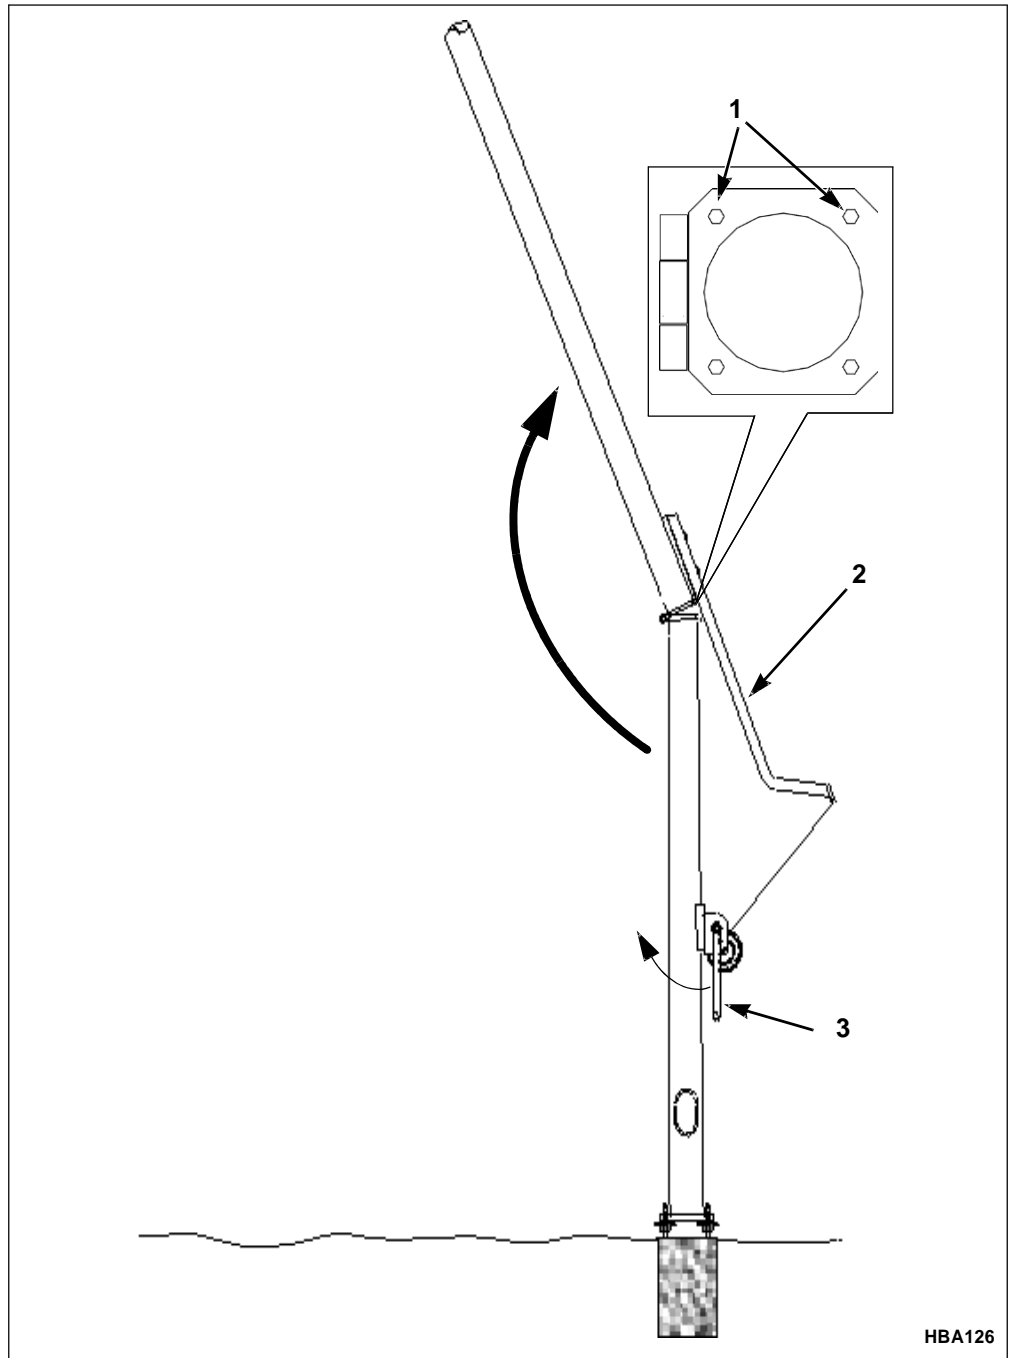

Figure 15. Raising the Top Half of the Pole
1. Using the hand crank on the winch, raise the pole until the hinge is closed, see Figure 15.
2. Place a bolt into each of the four holes in the hinge located at the center of the pole, see Figure 15.